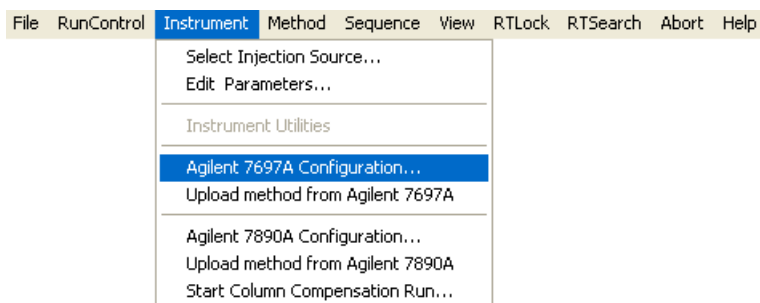

**Figure 7** Selecting the Agilent 7697A Configuration
- 1 To access the **Agilent 7697A Configuration**, select **Instrument > Agilent 7697A Configuration...** from the data system's top menu (Figure 7).